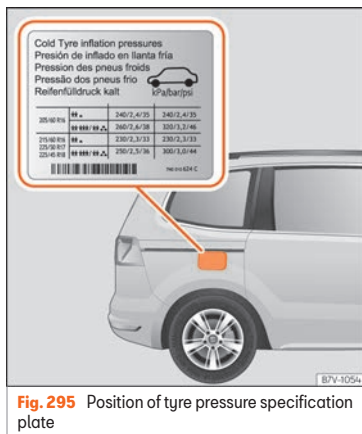

Fig. 295 Position of tyre pressure specification plate
- Adjust tyre pressure to the load being carried by the vehicle »» **Fig. 295**.
»» **Fig. 295** is either on the driver door strut or inside the fuel tank flap.
»» **Fig. 295**.
- The driver is responsible for ensuring that all of the vehicle tyres are correctly inflated to the right pressure. The recommended tyre pressure is indicated on the label »» Fig. 295.
- When the tyres are cold, tyre pressure should be that indicated on the label »» Fig. 295.